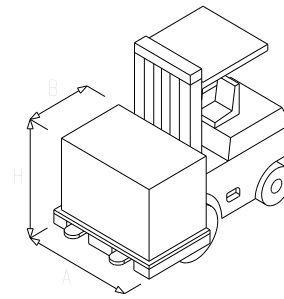

Figure 6
- using a forklift truck, see Figure 6.